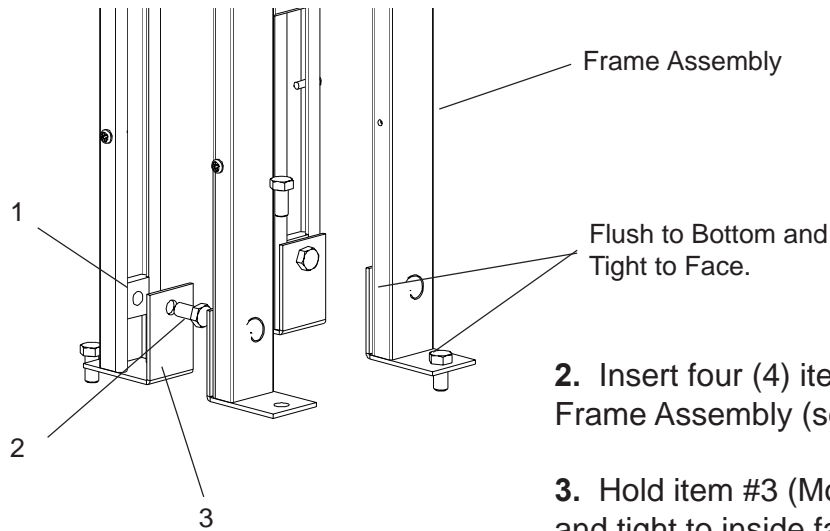

Fig. 3
2. Insert four (4) item #1 (3/8 Spring Nut) into Frame Assembly (see Fig. 3).
3. Hold item #3 (Mounting Clip) flush to bottom and tight to inside face of Frame Assembly (see Fig. 3).